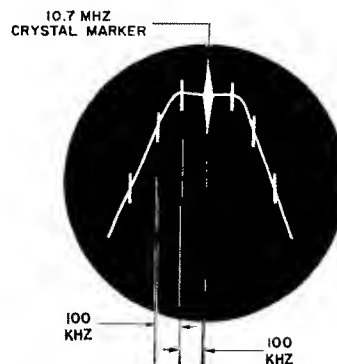

Figure 11.1 Typical 10.7 MHz I-F Response Curve with 100 KHz Markers Added
- 11.1.1.9 To determine bandwidth at the various points on the response curve, place the 100 KHz marker switch in the on position. Adjust marker height as required to obtain suitable marker levels. A typical i-f response curve with the 10.7 MHz and 100 KHz markers added is shown in Fig. 11.1.